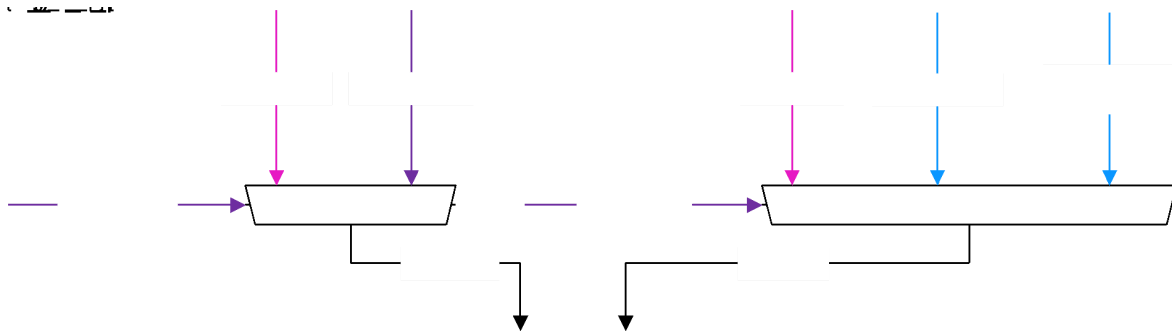

Figure 7: Schematic overview of Decoded Instruction logic
1. What module drives the signals with pink arrows (**rn_value**, **rm_value**) in Figure 7?
2. What module drives the signals with purple arrows (**exec_m_mux**, **exec_n_mux**) in Figure 7?
3. Where do the signals with blue arrows (**aligned_pc**, **aligned_pc[63:12]**) come from in Figure 7?